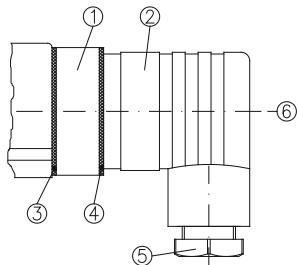

Fig. 5
- ↳ Loosen the central screw ⑥ M3x35 and disconnect the cable socket ② from the connector ① (→ Fig. 5). Pull the central screw ⑥ out of the cable socket ②.